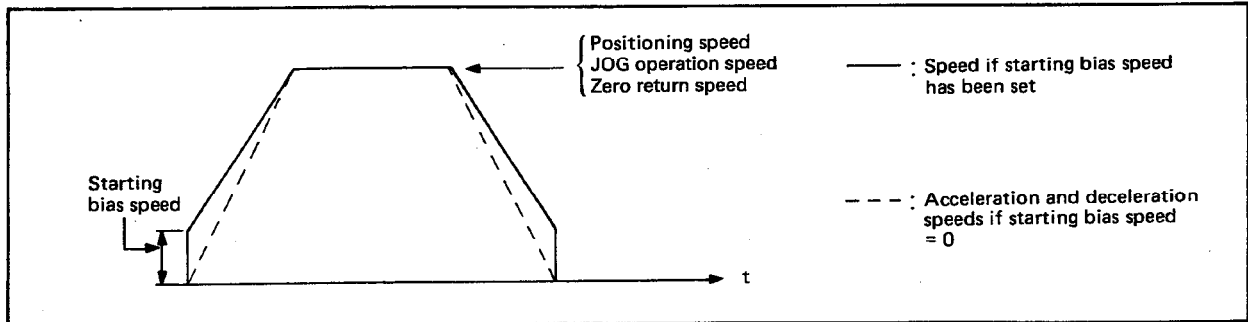

Fig. 3.3 Speed Change When Starting Bias Speed Is Set
(4) JOG speed limit value
(5) Starting bias speed
- The starting bias speed is used for positioning, JOG operation, and zero return. See Fig. 3.3.